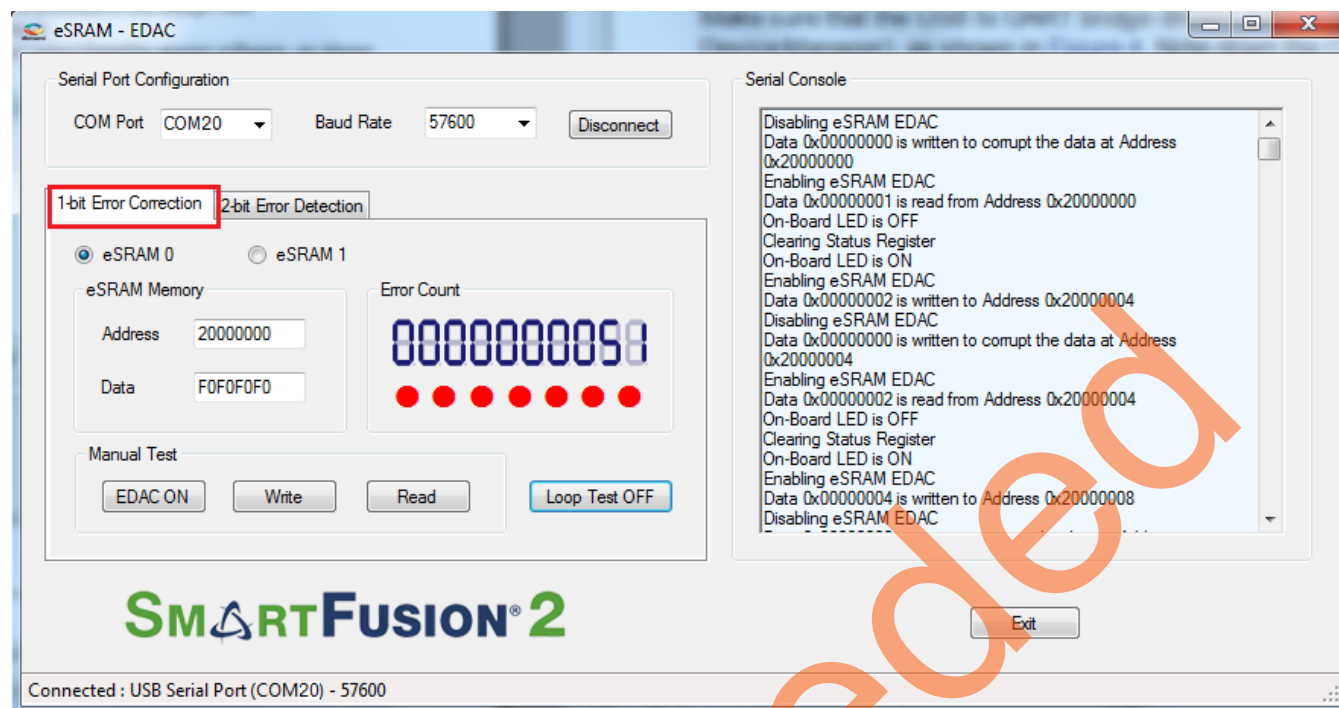
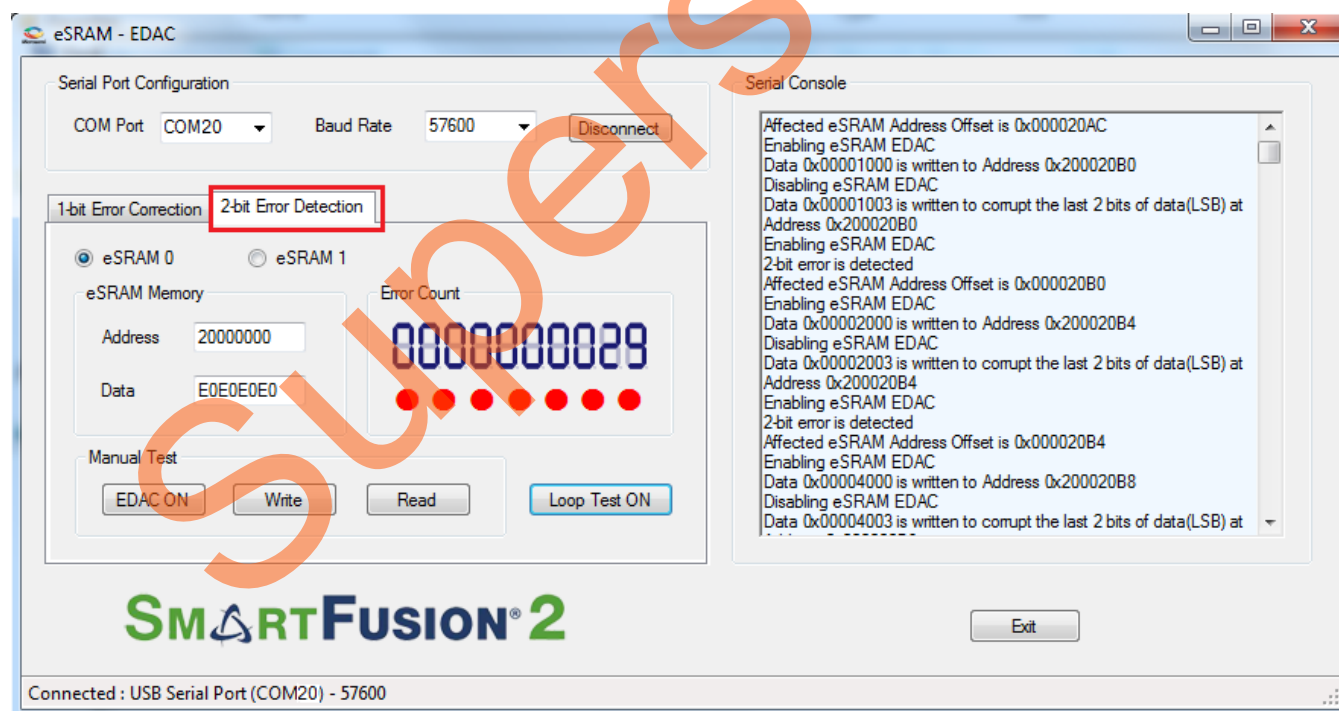

Figure 7. 1-bit Error Correction Tab
Figure 8. 2-bit Error Detection Tab
8. Select the 1-bit **Error Correction** tab or 2-bit **Error Detection** tab, as shown in Figure 7. and Figure 8.